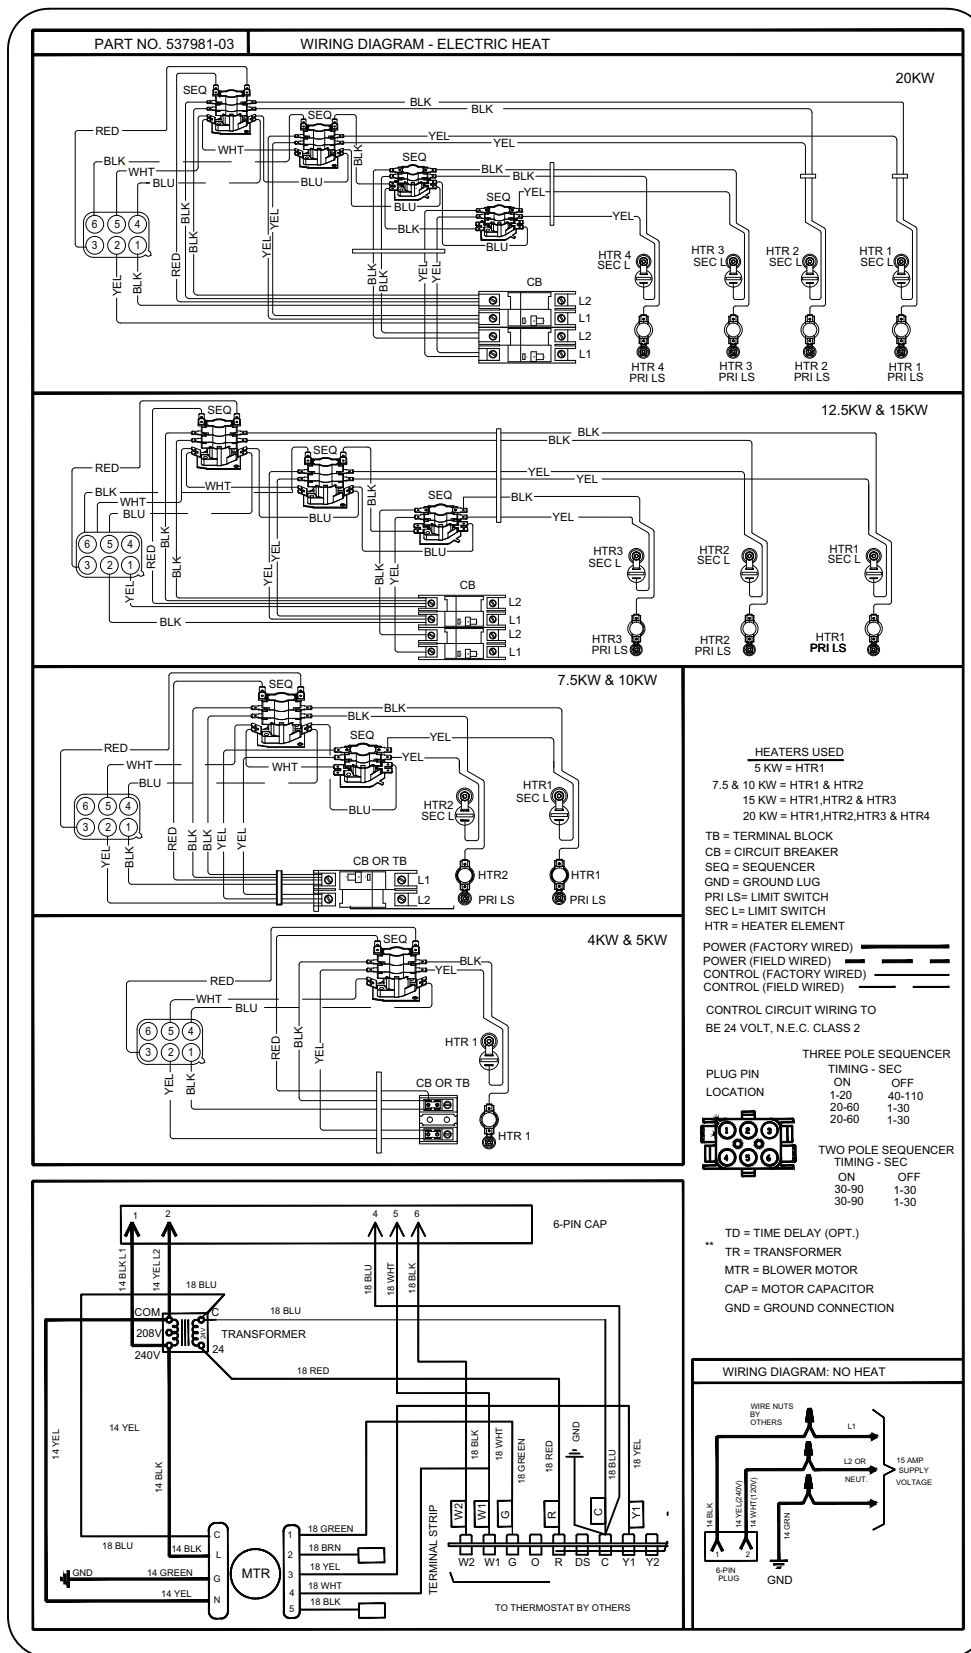

Figure 16. Typical Wiring Diagram – NAME1 Air Handler with Electric Heat – (Constant Torque Motor) (All models)
- Typical unit wiring (as well as wiring of optional field-installed electric heat) is given in Figure 16. Refer to the instructions provided with the electric heat section for proper installation.